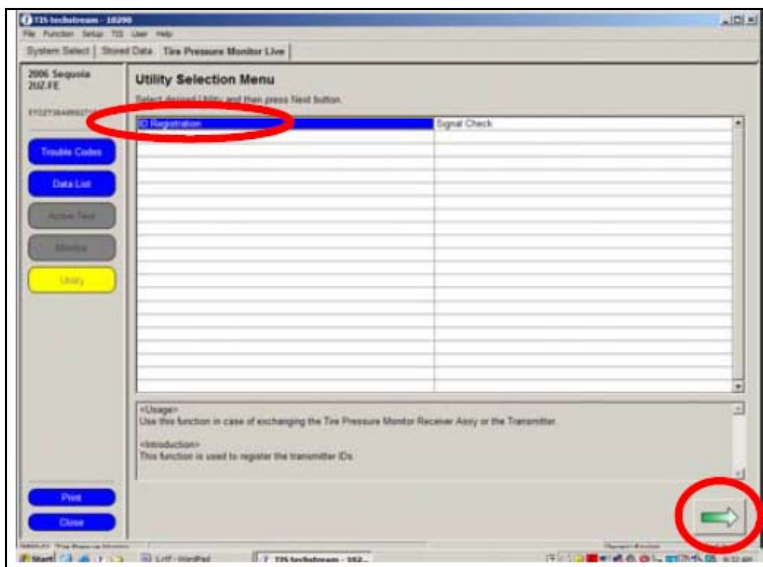

Figure 14e
- h. Select “ID Registration” then click the green arrow located at the bottom right corner. See Figure 14e.